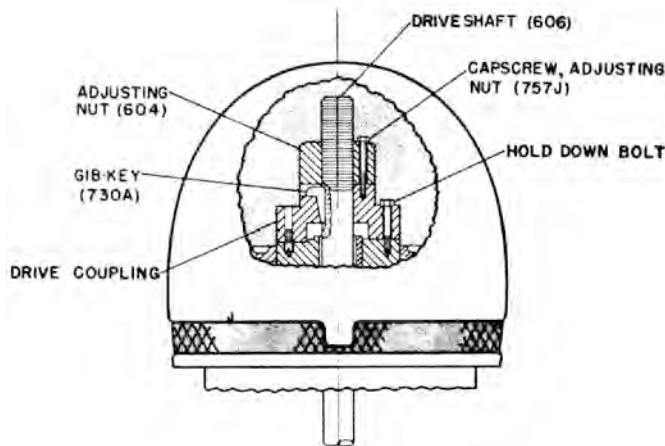

Figure 10: Hollow shaft adjusting nut
5. Thread ring (611) onto the headshaft (608). Install alignment ring (727) on pump hub (614) groove, slide pump hub over ring and key (730C).
6. Secure driver hub (610) and pump hub (614) together with cap screws and nuts provided.
(See Figure 10: Hollow shaft adjusting nut on page 27) Adjustment is accomplished by turning adjusting nut (604).
- b) With impellers touching bowl faces, turn adjusting nut (604) counterclockwise until face of adjusting nut makes contact with motor coupling.
9. Slip on driver coupling. (See Figure 10: Hollow shaft adjusting nut on page 27). Apply a thin film of oil on gib key (730A) and install key. Key shall be a slide fit allowing adjustment of the driveshaft by means of the adjustment nut. Secure drive coupling, see that the drive coupling is properly seated. Lubricate bottom of adjusting nut (604) and install.
Adjustment is accomplished by turning adjusting nut (601). (See Figure 10: Hollow shaft adjusting nut on page 27)